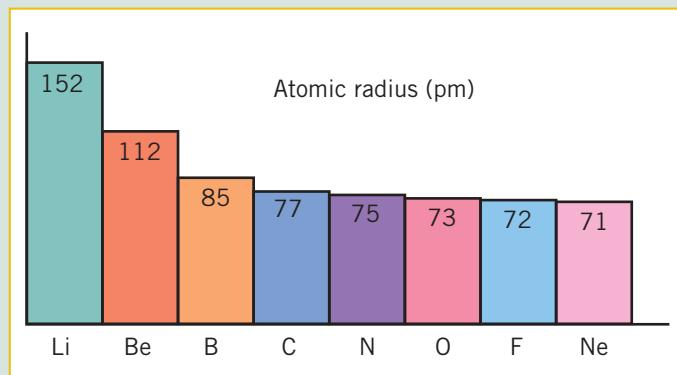

Figure 2.26
- 10** The atomic radii of the atoms of the period 2 elements are shown in Figure 2.26. Explain the trend shown in this data.